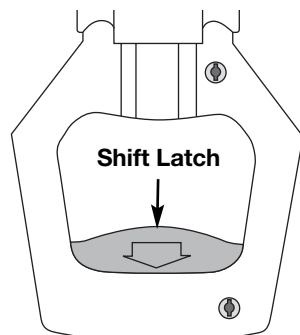

Fig. 8
- If the shift handle is in the UP position, grasp the red shift latch (Fig. 8) on the shift handle and squeeze until the internal locking mechanism releases.